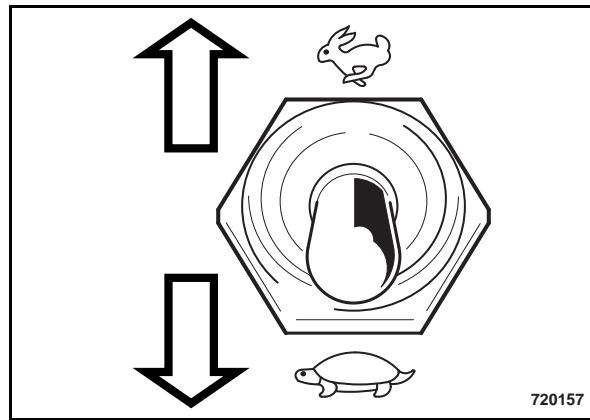

Fig. 39
- Switch the toggle switch for travel speed ranges (Fig. 39) to the desired speed range.